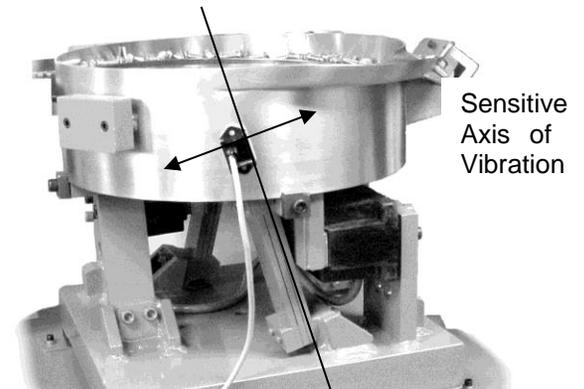

Fig. 2 The arrow shows the direction of vibration which is at a right angle to the spring pack.
A. ORIENT THE SENSOR so that its sensitive axis is in the same direction as the vibration of the feeder. The double-headed arrow in figure 1 shows the sensor's sensitive axis. Align the sensitive axis of the sensor in the same direction as the vibration (see figure 2). The sensor must be oriented correctly for proper operation.
Use a cable tie and an adhesive-backed mount to attach the sensor cable to the side of the drive base. See Figure 2. Clean the mounting area before applying the adhesive-backed mount.